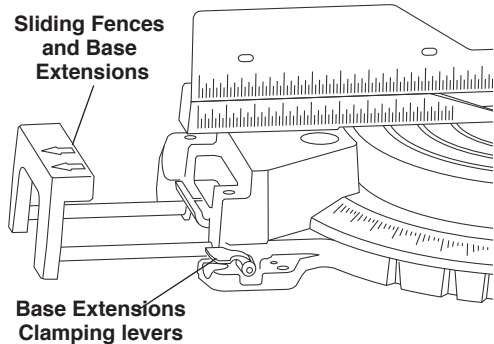

Figure 29. Sliding Fences and Base Extensions
1. Loosen the base extension clamping levers (Figure 29).